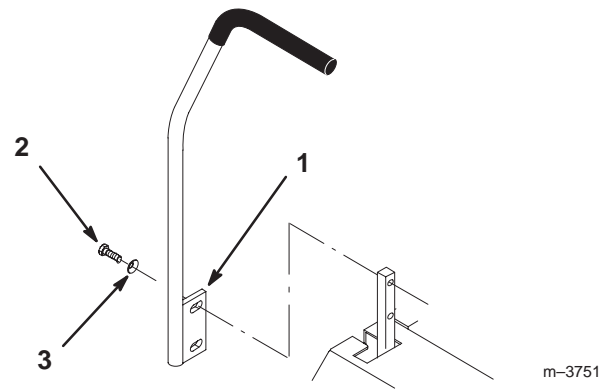

Figure 4
1. Remove the (4) 3/8-16 x 1” (26 mm) bolts and (4) 3/8” spring washers which attach the motion control levers to the control arm shafts for shipping (Fig. 4).
2. Place the levers (with the mounting plate toward the rear) on the outside of the control arm shaft and secure with (4) 3/8-16 x 1” (26 mm) bolts and (4) 3/8” spring washers (Fig. 4).
4. Align the front/rear position of the levers, with each other, in the neutral position. Loosen hardware and adjust by sliding/tilting the lever(s) forward or backward until properly aligned (Fig. 4).